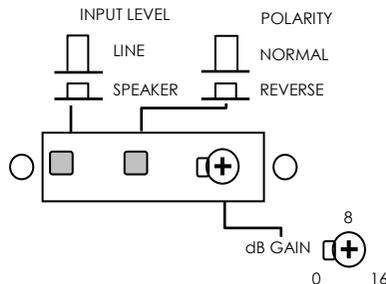

Figure 6 – Amplifier Switch and gain settings
- 4) For operation without the optional external volume control, connect the amplifier inputs to the VARIABLE LINE OUT of your receiver using shielded RCA patch cables. In this case the amplifier volume will be determined by the volume setting of the source component. If the receiver does not have line level outputs, the ME-52 can be connected to the speaker outputs, however line level is preferred due to superior noise and distortion performance. See Figure 6 for amplifier settings related to input connections.